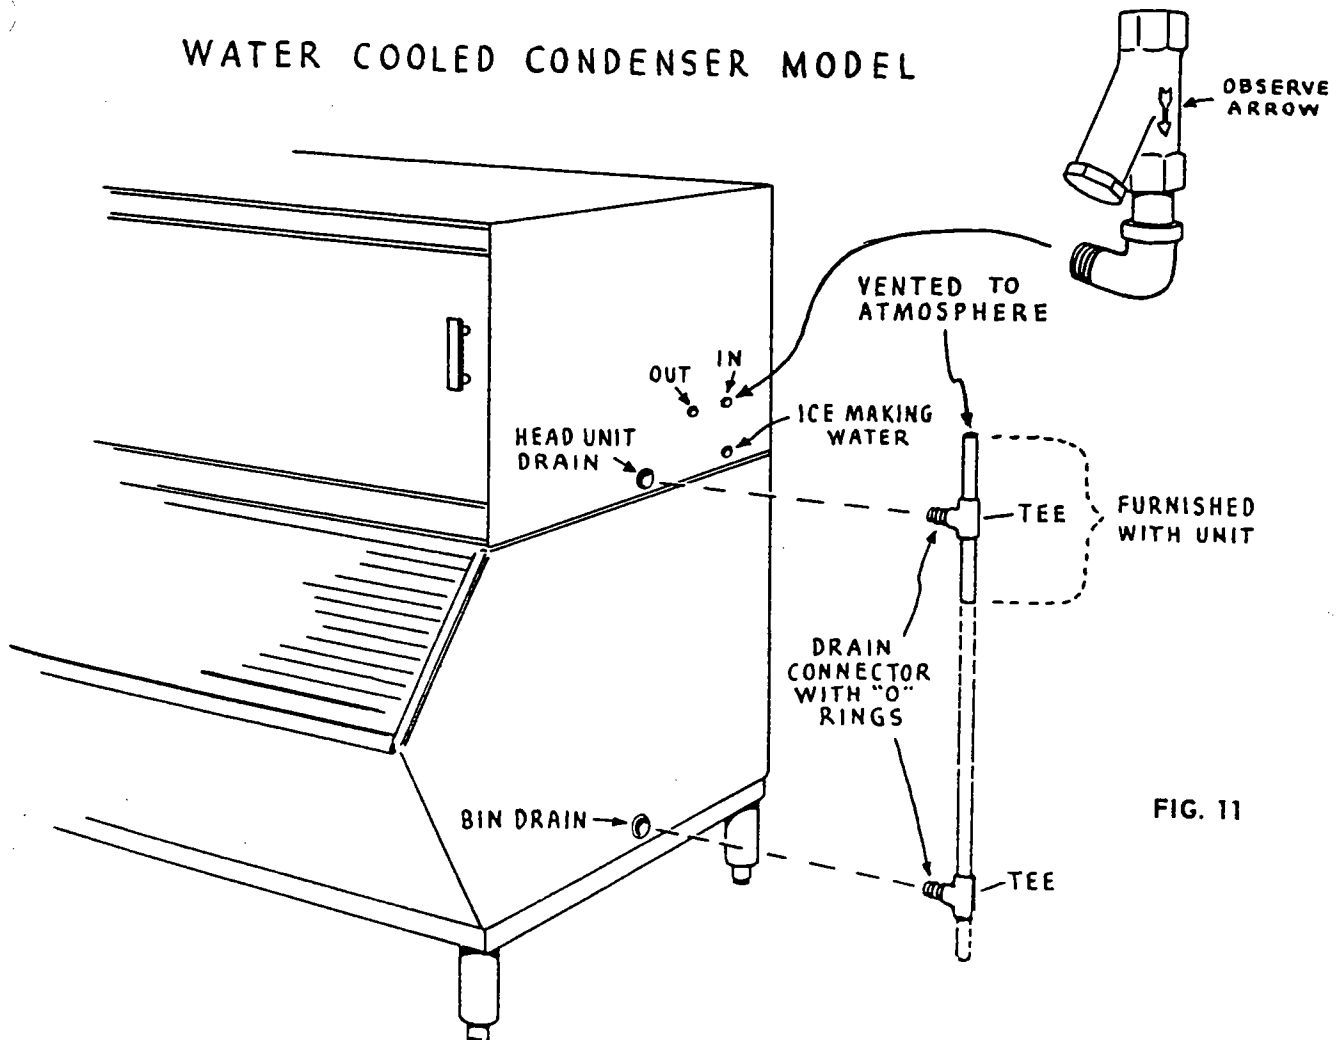

FIG. 11
If head unit and bin drains are tied together through a "T" connection we suggest using a 3/4" pipe and a stand pipe vented to the atmosphere to prevent water traps. See Fig. 11.
14. If head unit and bin drains are tee'd together make sure water from head unit does not back up into bin when unit goes into harvest. See stand-pipe installation in Fig. 11. Separate drains are recommended unless drain goes straight down through floor.
15. If head unit and bin drains are plumbed directly into sewer with trap or both drains tied together it is necessary to tee in a stand-pipe 1 ft. high vented to the atmosphere to prevent trapping of drain water. Fig. 11. If head unit and bin drains drip into a floor sink, a stand pipe is not necessary.